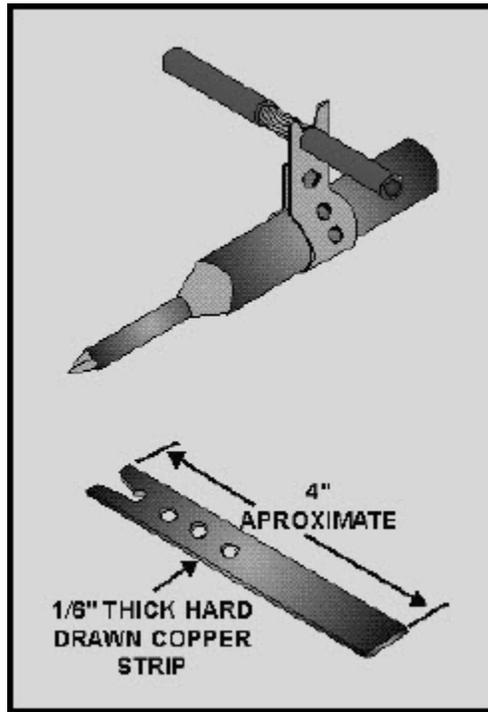

Figure 2-4 Locally made hot-blade stripper
If you are required to strip a large number of wires, you can use a locally made hot-blade stripper (figure 2-4) as follows:
2. Fasten the copper strip around the heating element of an electric soldering iron as shown in figure 2-4. The iron must be rated at 100 watts or greater in order to transfer enough heat to the copper strip to melt the wire insulation.